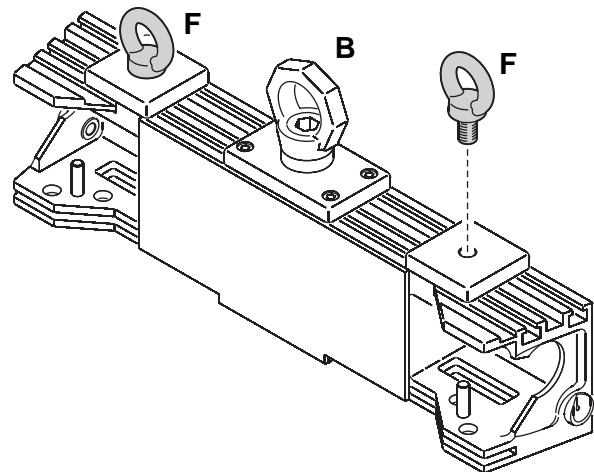

Figure 6: Additional eyebolts
- See Figure 6. Obtain M12 threaded eyebolts **F** (not supplied) that are approved as a suspension point for the total weight they will have to support. Fasten two eyebolts securely into the threaded holes in each Header as illustrated and use these as suspension points for the Header.